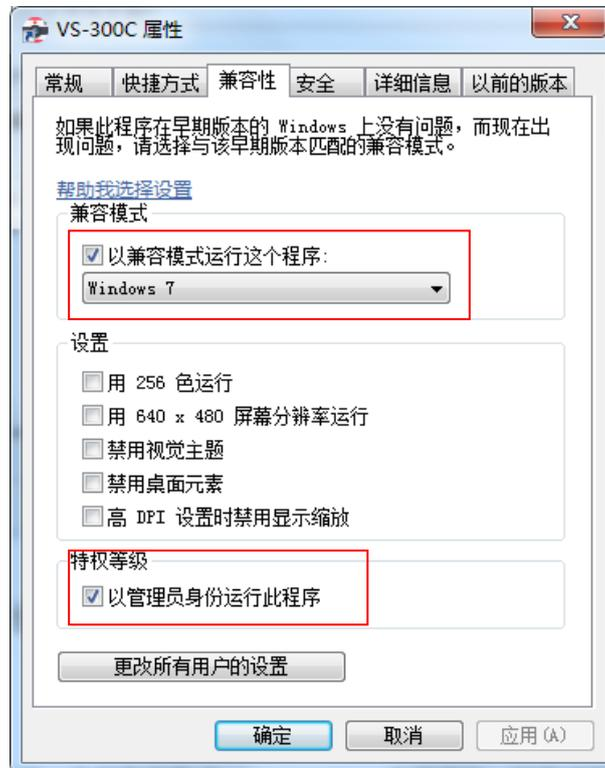

Figure 5 Permission Run settings
- 1) Run the **Permission setting**, right click the VS-300C logo in the menu, to open **property page**; then run the **Property** according to the shown in figure 5.